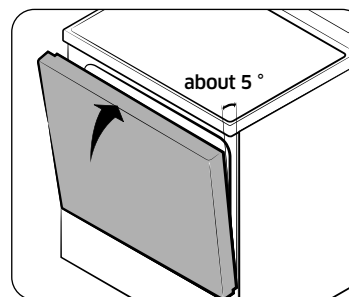

Fig. 1
4. Close the door to the door removal position, which is approximately 5 degrees from vertical (Fig. 1).